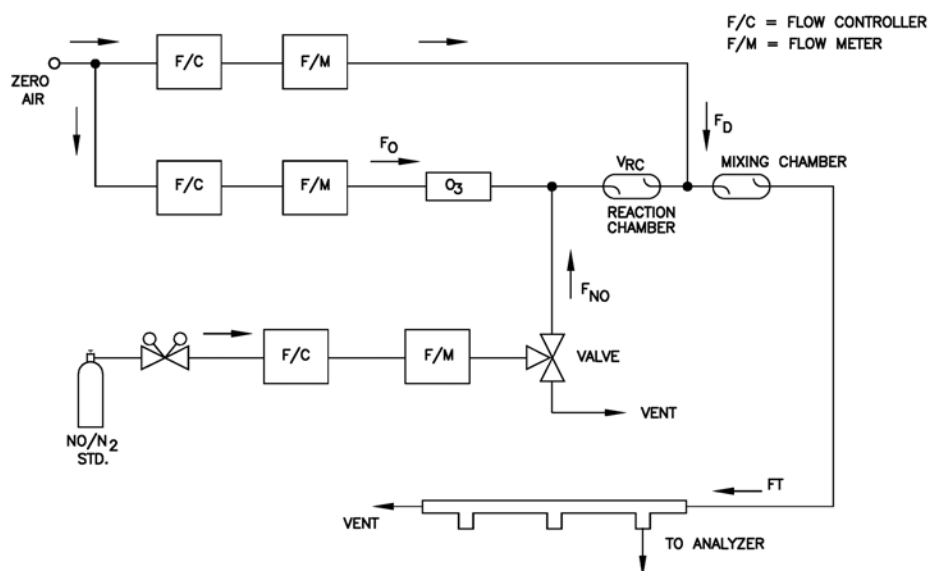

Figure 4-1. GPT System
A gas phase titrator (GPT), such as is included in the Thermo Electron Model 146 Series Multigas Calibration System is used to generate NO_2 concentrations from NO concentrations. Figure 4-1 shows the suggested placement of the component parts of a gas phase titration apparatus.
1. Assemble a dynamic calibration system such as the one shown in Figure 4-1.